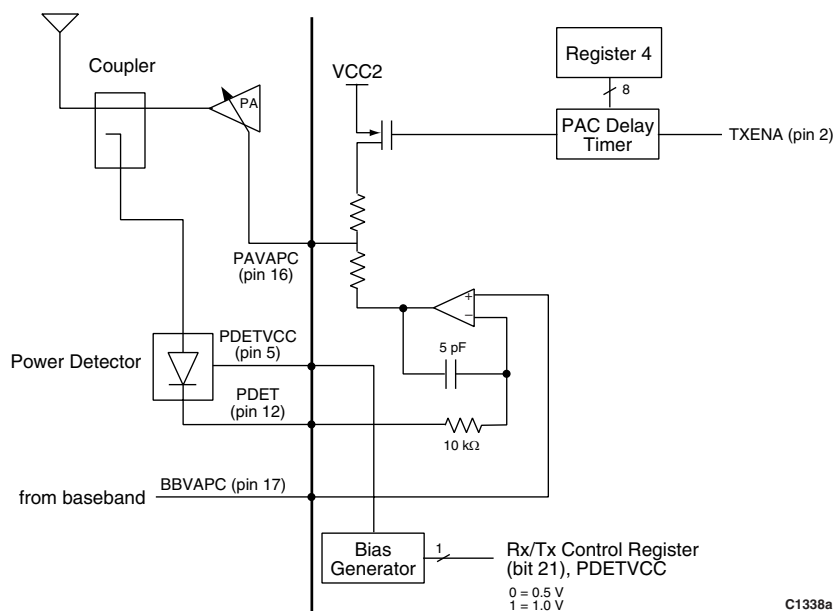

Figure 8. PA Controller Block Diagram
The device contains an error amplifier/integrator to provide transmit burst control for an external power amplifier (PA). As shown in Figure 8, when the device is connected to a PA, an RF detector, and a coupler, a loop is formed that controls the transmit power in a multi-band wireless application. The error amplifier amplifies and integrates the voltage difference between the RF detector output (PDET) and the power control input (BBVAPC). The output of the integrator is fed to an internal gain shaper that drives the gain control input (PAVAPC) of the external RF PA. The device provides a bandgap voltage (PDETICC) which can be used as the supply voltage for the external peak detector and can source up to 200 μ A.